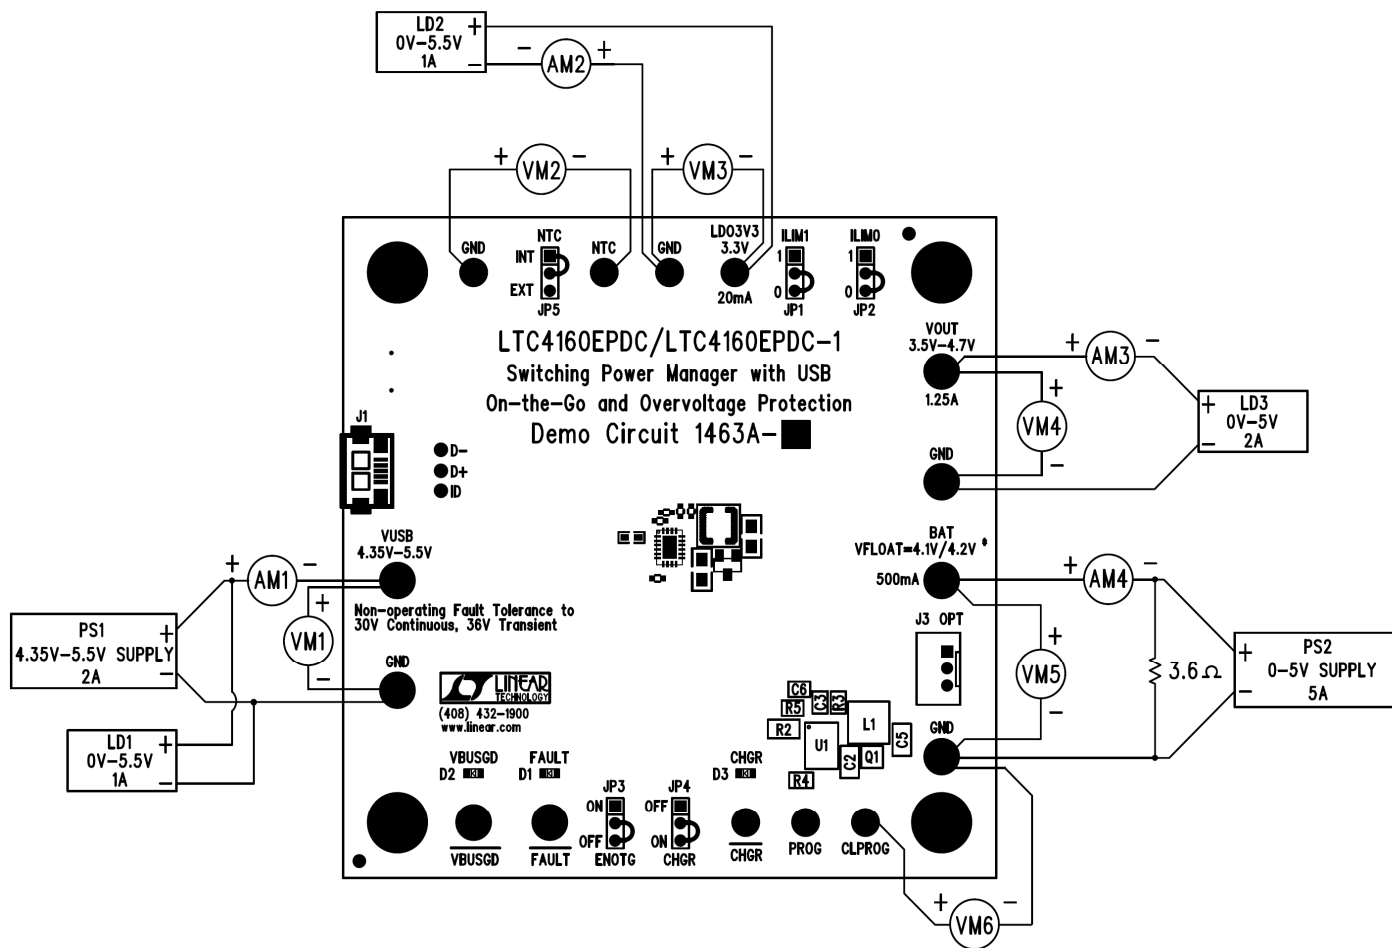

Figure 1. Proper Measurement Equipment Setup for DC1463A
Refer to Figure 1 for the proper measurement equipment setup and jumper settings and follow the procedure below.
- Set all jumpers as shown in Figure 1 and LD1 = 0A, PS1 = 5V, LD2 = 0A, LD3 = 0A, PS2 = 3.6V. Observe VOUT (VM4), LDO3V3 (VM3), and V(NTC) (VM2). The LTC4160 is operating as USB power manager. The current from PS1 will try to be the charging current * (3.6V/5V), or approximately 400mA, but will be limited by the input current limiter to ~ 100mA.